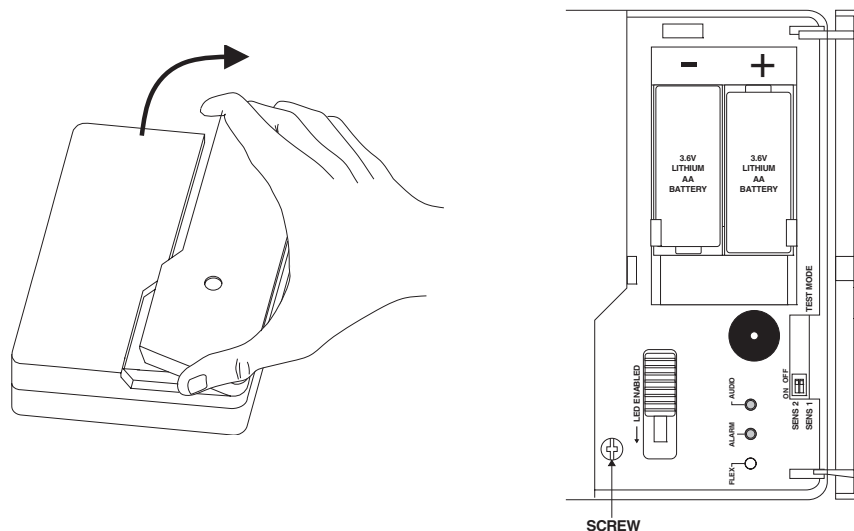

Figure 2. Opening Cover to Locate and Remove Cover Screw
- Open the sensor door and remove the cover screw using a Phillips screwdriver (see Figure 2).